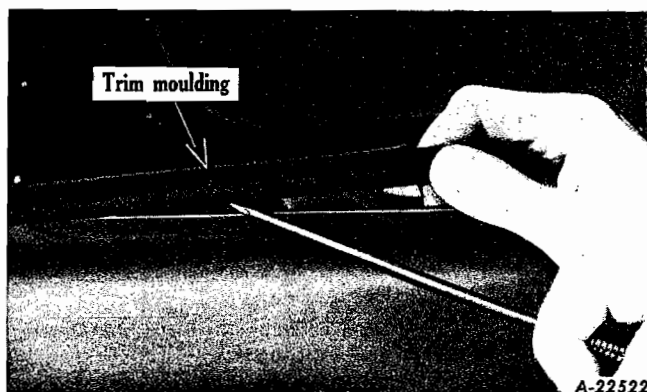

Fig. 11
3. Remove trim moulding from door glass opening (Figs. 11 and 6).